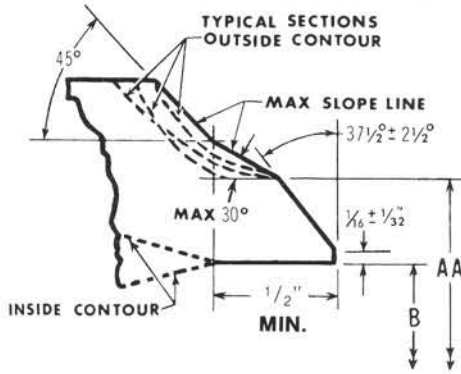
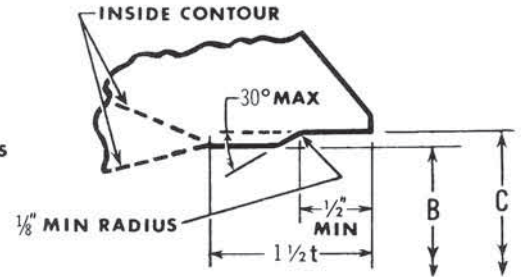

Fig. 1A.- Welding End for No Backing Ring or for Split Backing Ring. Pipe Wall Thickness "t" ⁷/₈ in and less.
Fig. 2.- Welding End for Continuous Rectangular Backing Ring (inside contour).*
When the thickness of the welding end of the valve is greater than that of the mating pipe, and when the additional thickness increases the outside diameter, a taper weld having a slope not exceeding 1:3 may be employed or the greater outside diameter may be extended back in a manner within the maximum slope lines indicated in Figs. 1A and 1B. The transition shall be of a shape avoiding sharp re-entrant angles and abrupt changes in slope. The profile of the outside contour shall be at the manufacturer's option provided above conditions are met.
For a joint without a continuous backing ring, the inside contour of the valve end shall be bored to a diameter B to a depth of 1/2" min. The inside diameter of a valve end beyond this machined surface may be either larger or smaller than the inside diameter of the pipe. The transition shall be of a shape avoiding sharp re-entrant angles and abrupt changes in slope. See Figs. 1A and 1B. (Transition shape also applies to Figs. 2 and 3).
For a joint with a continuous rectangular backing ring, the contour of the valve end shall be a straight bore of diameter C, 1/2 in, deep. This depth is based on a backing ring 3/4 in, wide; but if a wider ring is used, the depth shall be increased to provide the 1/8 in, minimum end clearance indicated. See Fig. 2.
* See Figs. 1A and 1 for Outside Contours.
BORES: Walworth standard practice for Class 150 and 300 cast steel valves is that butt welding ends be machined in accordance with Figs. 1A and 1B, bored to match the inside diameters of Schedule 40 pipe in sizes 12-inch and smaller, and of 0.375 inch Standard Wall Pipe in larger sizes, unless otherwise specified. Orders for all sizes of Class 600 and higher valves must specify the diameter of bore, type of backing ring, etc.